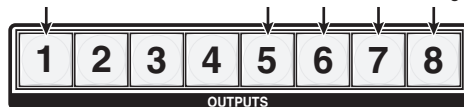

Figure 3-33 — Assign inputs and outputs
6. Press and release the input 5 through 8 and output 5 through 8 buttons (figure 3-33).